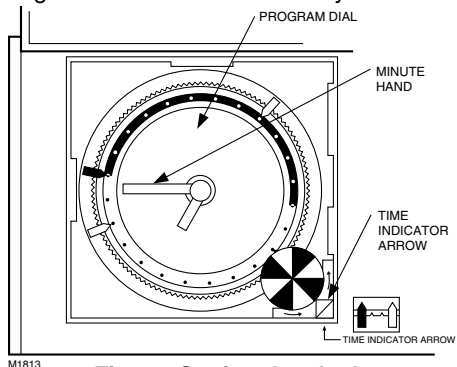

Fig. 3—Setting the clock.
- After setting the time correctly, the Time Indicator Arrow (triangle shape) will point to the correct time and corresponding daytime (light) or night-time (dark) band of the program dial. See Fig. 3.